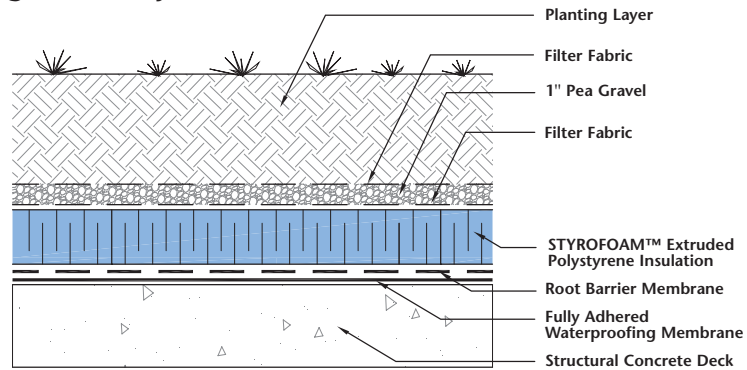

Figure 5
- 1" (25 mm) (min) layer of pea gravel, free of fines, with a filter fabric above and below the ballast (Figure 5)